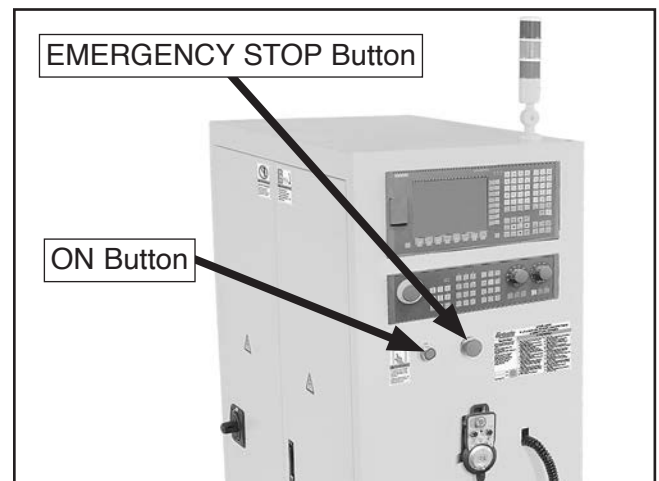

Figure 72. Location of power controls on electrical cabinet.
5. Press ON button on electrical cabinet to turn machine **ON** (see **Figure 72**).